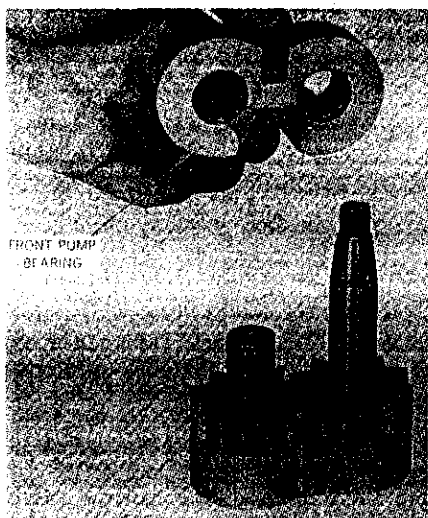

Fig. 422—Assembling pump gears and bearings.
Thoroughly clean all parts, air dry and then lubricate with hydraulic fluid prior to reassembly. Reassemble by reversing disassembly procedure using all new seals. Fig. 422 can be used as an assembly guide; the large notch in gear bearings must be toward the intake side of pump as shown in Fig. 420 and 421. Refer to Fig. 423 for early and late seal installation on rear cover for the independent PTO pump gear bearing. Alternately and evenly tighten the nuts on pump through bolts to a torque of 40-45 Ft.-Lbs. NOTE: Be sure the two dowel bolts are reinstalled in correct position as shown in Fig. 420 and Fig. 423. Install new washer (25) and bend tang of washer against gear retaining nut (24) after tightening the nut.